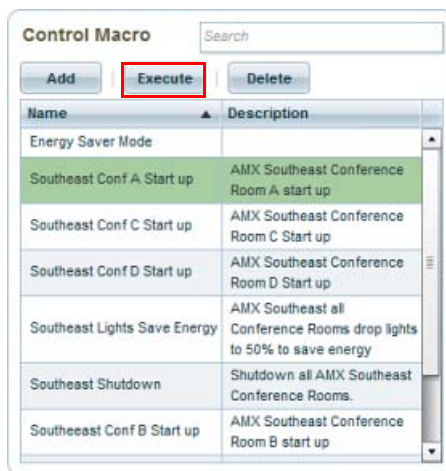

FIG. 286 Executing a Control Macro
2. Click the **Execute** button (FIG. 286).